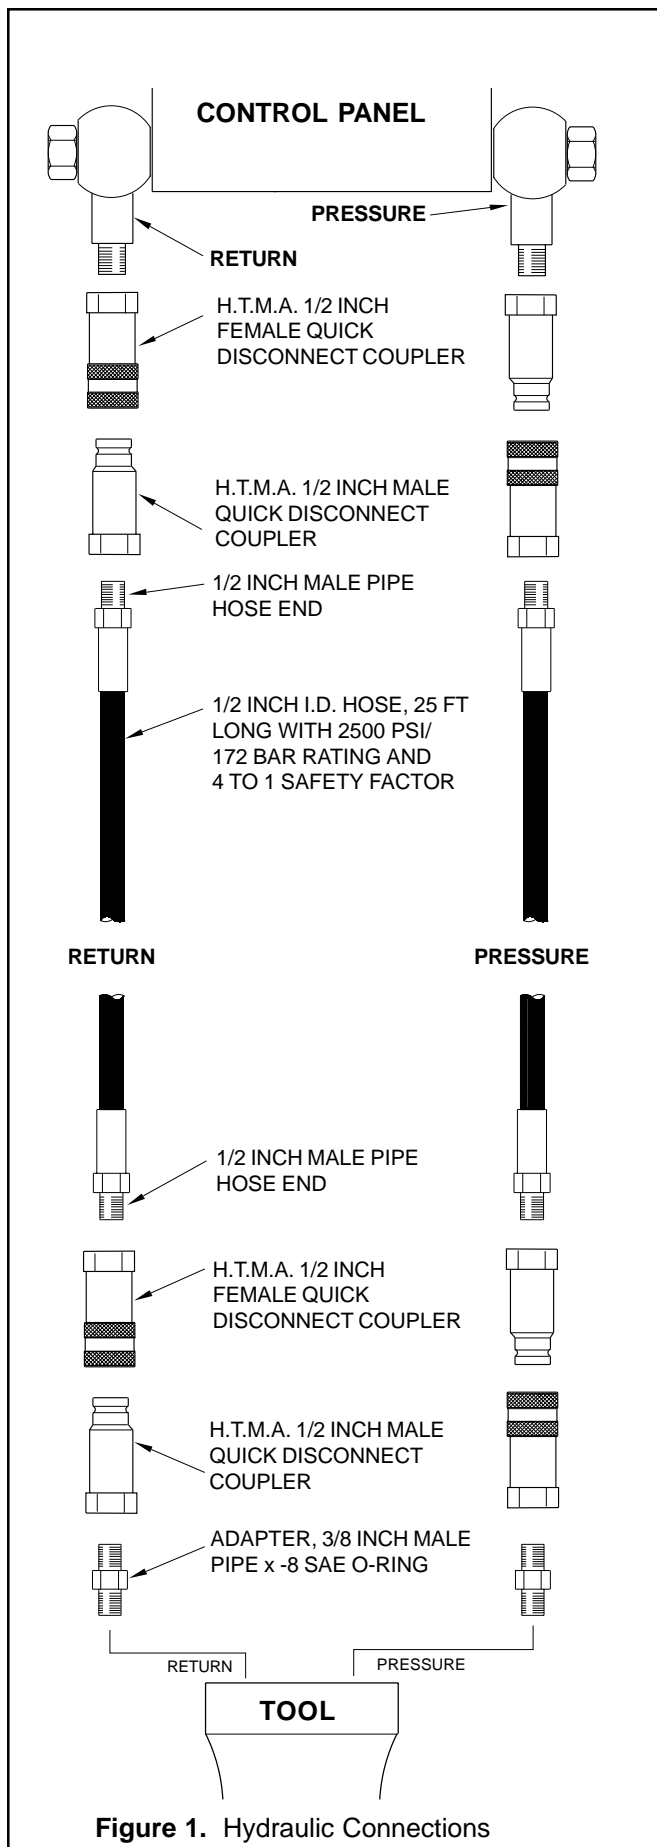

Figure 1. Hydraulic Connections
quick disconnect fittings (NPT type threads). (See Figure 1.)
H.T.M.A. approved quick disconnect couplings are installed to hydraulic hoses so that the direction of oil flow is always from the male to the female quick disconnect as shown in figure 1. Quick disconnect couplings and hose fittings are selected so that additional fittings such as reducer or adapter fittings are not required.